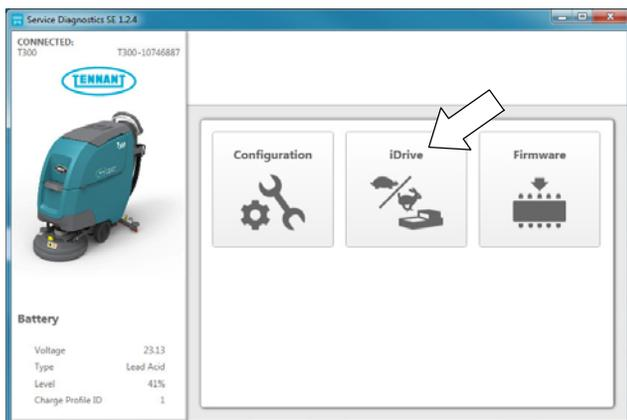

Fig. 16
- To program the new drive module press the “iDrive” button to enter the programming screen (Figure 16).